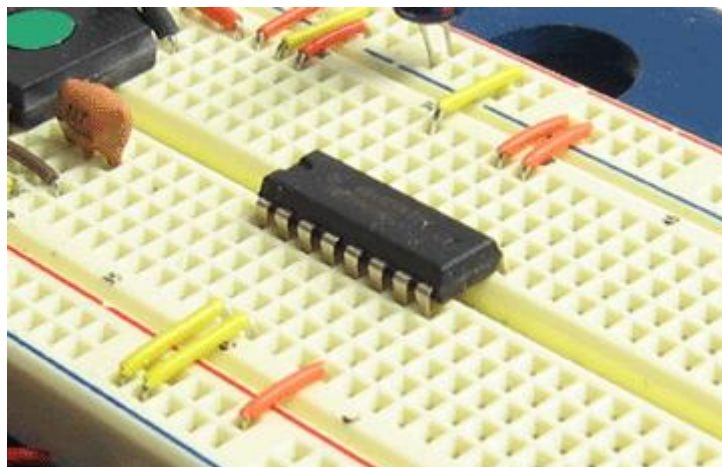

Figure 9. Motor driver IC with power and ground connections.
5. Connect pin 16 to power, with a yellow jump wire from hole J36 to power, as shown in Figure 9.